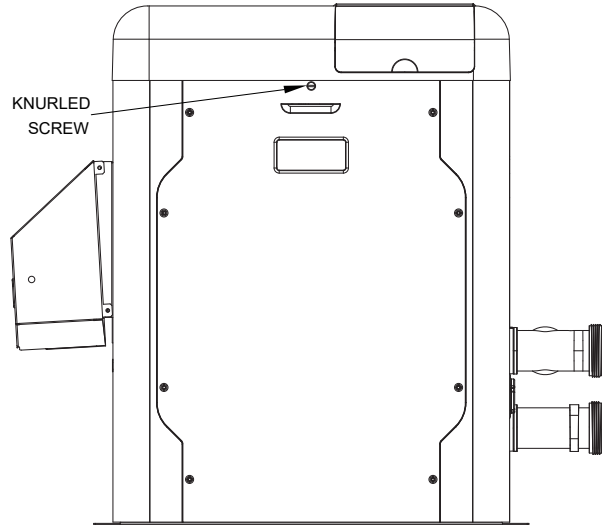

Figure 34. Removing the Front Panel
To rotate the top, remove the (2) knurled screws holding the jacket top to the heater as shown below. Rotate the top to the desired position and reinstall the knurled screws to retain the jacket top. See **Figure 34** on page 27.
1. Remove knurled screw from front door. See **Figure 34**. Set aside door for serviceability.